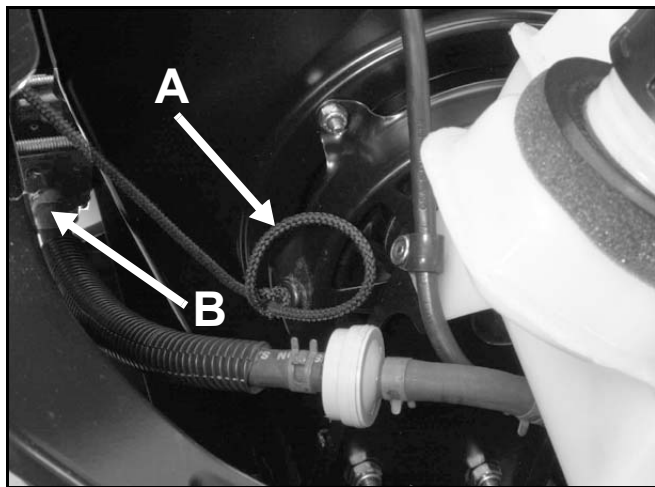

Figure 16
1. Remove fuel from the tank. Remove the chute and upper shroud; refer to "Upper Shroud Removal" on page 2 - 3. Tie a slip knot in the starter rope where it comes out of the recoil (Figure 16).
4. Temporarily clamp the fuel line and slip it off the carburetor fitting. Be prepared with something to catch any fuel remaining in the line or filter (Figure 16).